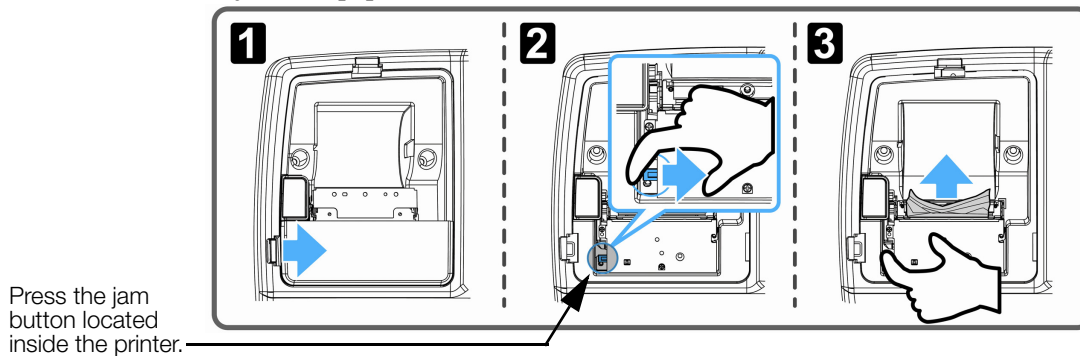

Figure 3-5. Jammed Printer Paper Removal
1. If the thermal paper gets jammed pull the lower printer cover up as shown in Figure 3-5 and press the jam button located inside the printer.